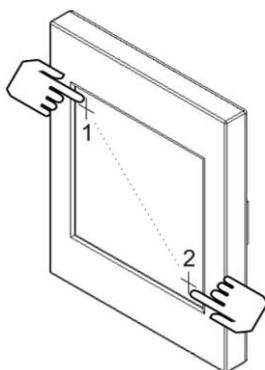

Figure 1.3. Z38i calibration
In the factory status of the panel, after connecting it to the KNX bus and before carrying out any programming, the calibration screen will be shown. Once calibrated (see steps-to-follow to do so in figure 1.3), it will appear in the header the text "Z38i 2.2", where the version of the pre-installed application is shown; in this case, the version 2.2. When pressing the MENU button, it will be possible to access the Configuration page, where the boxes 1, 4 and 5 have been enabled. By a short-pressing over the right button of the box 1 (PROG. LED), the panel can be set into the programming mode, without having to physically press the programming button (2).
After any download from ETS, it must be **calibrated**. This calibration is carried out by pressing the upper left corner and bottom right corner of the Display, in this order (see Figure 1.3). This calibration will be kept although a power failure in the KNX bus occurs. However, every time Z38i is reprogrammed, the panel must be recalibrated.